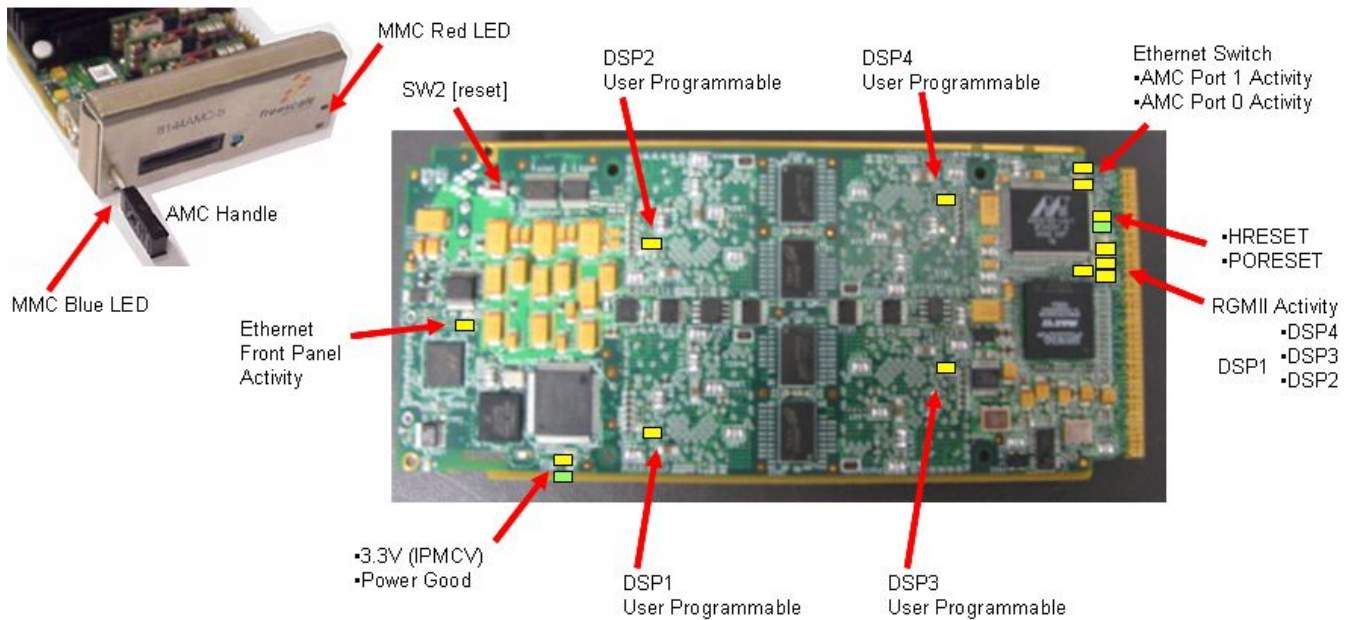

Figure 4. LED Locations
- Check for completion of the reset sequence indicated by the LEDs (see Figure 4 for locations). A full description of the LED operation is given in Table 3.